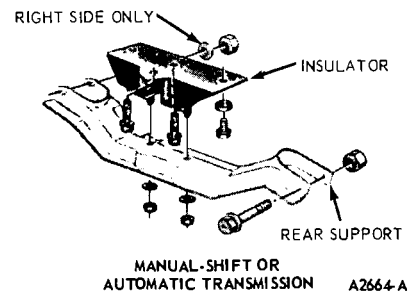

FIG. 17—Mustang and Cougar Engine Rear Support
1. Remove the insulator to rear support nuts and washers (Fig. 17).
1. Position the insulator against the transmission and install the insulator to transmission bolts and washers (Fig. 17). Torque the bolts to specifications.